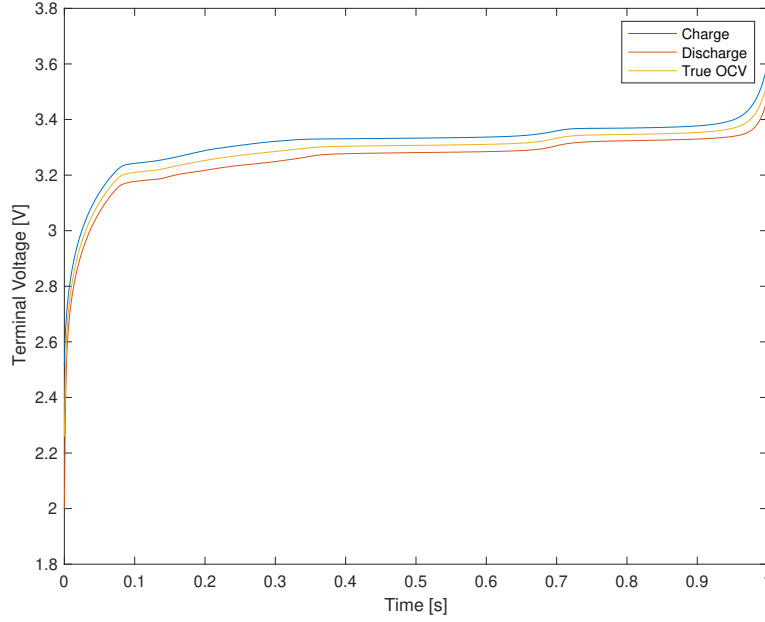

Figure 3.1: The OCV curve for the A123 cell.
- (b) The OCV curve can be seen in Figure 3.1 and the OCV function can be found in the code.